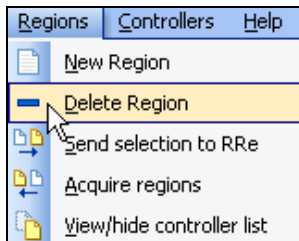

Figure 33.2.10
2. In the toolbar of the IR-Interface window select **Regions** and scroll down to **Delete Region** and click on it (Figure 33.2.10).
3. In the toolbar of the IR-Interface window select **Regions** and scroll down to **Delete Region** and click on it. (Figure 33.2.10).
4. In the toolbar of the IR-Interface window select **Regions** and scroll down to **Delete Region** and click on it. (Figure 33.2.10).